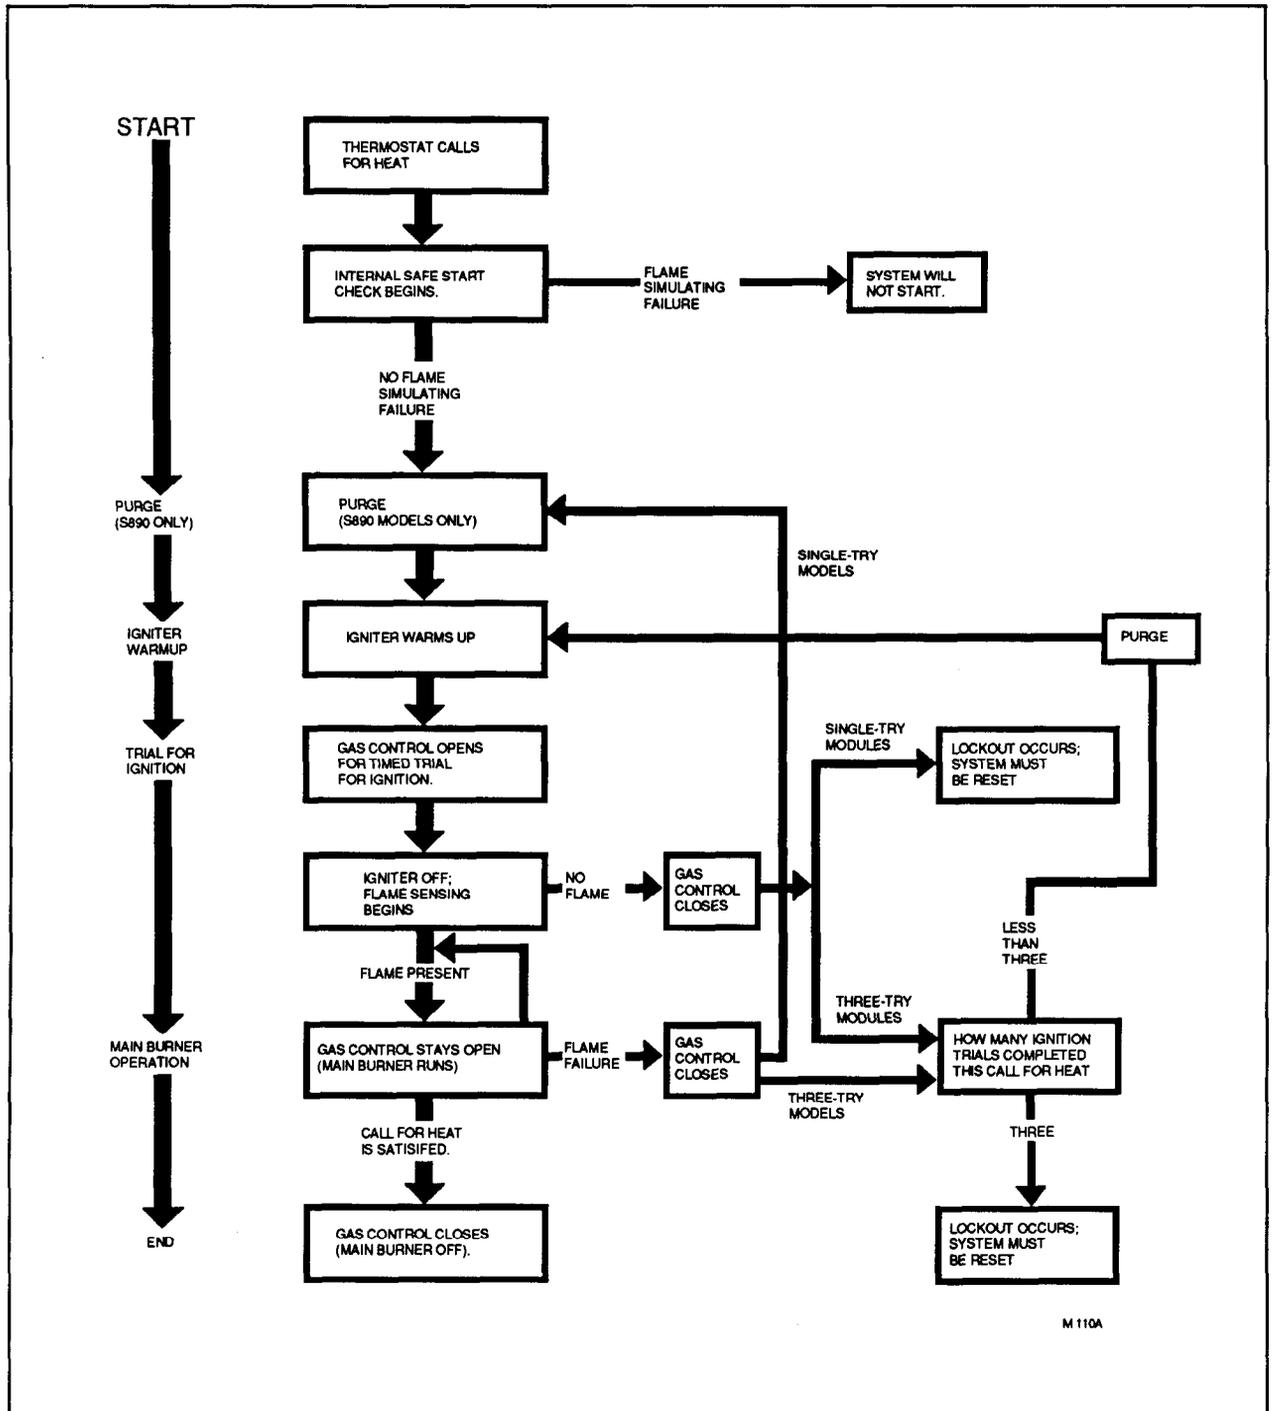

FIG. 12—S89/S890 NORMAL OPERATING SEQUENCE.
STEP 2: Review Normal Operating Sequence (Fig. 12) and Module Specifications.
Module operation is in four phases—prepurge (S890 only), igniter warmup, trial for ignition and burner operation. Modules offer either one or three trials for ignition. Fig. 12 shows the normal operating sequence.